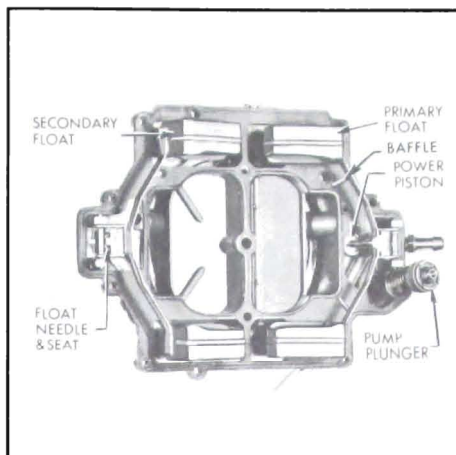

Figure 3-47—Air Horn Parts
5. Remove all air horn screws, then carefully lift air horn straight up from main body to avoid damaging floats, pump plunger, and vacuum power piston which are attached to air horn. See Figure 3-47.
7. Remove float hinge pin, float needle, needle seat, and gasket from side opposite pump (secondary). Then remove needle seat strainer. See Figure 3-47.